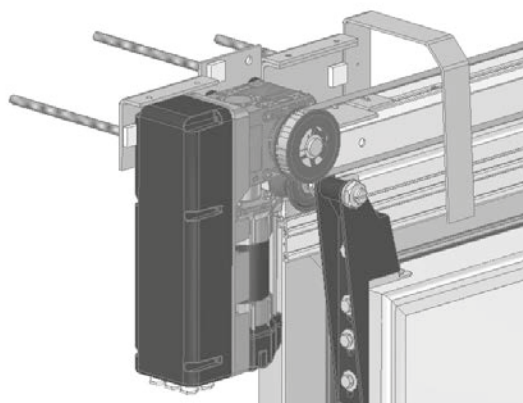

Fig. 9
- Secure the motor support with no. 3 M12 tie rods (Fig. 9).